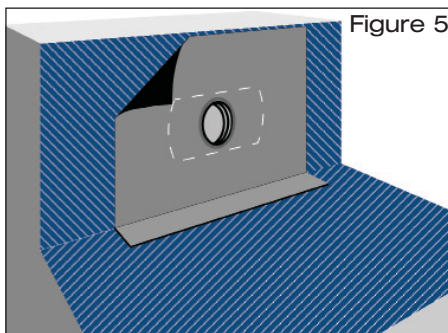

Figure 5
- 1.5 A bitumen primer must be applied to the floor slab and wall when bituminous vapour barrier sheets are used (Fig. 5). High-polymer vapour barrier sheets must be attached to the substrate in accordance with the foil manufacturer's laying specifications.